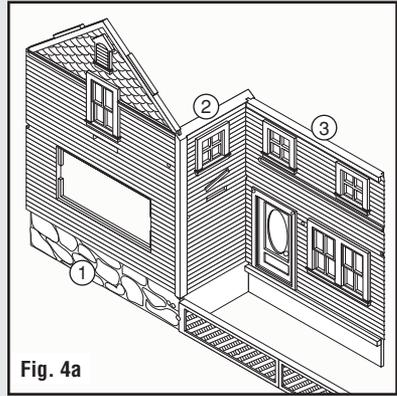

Fig. 4a
- Glue Side Front Wall ② to Front Wall ①, then Front Door Wall ③ to Side Front Wall ② (Fig. 4a).